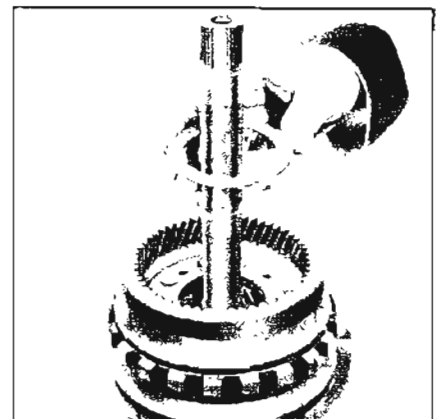

Figure 5-678
11. Install the reaction carrier to output carrier thrust washer with the tabs facing down in pockets. See Figure 5-678.